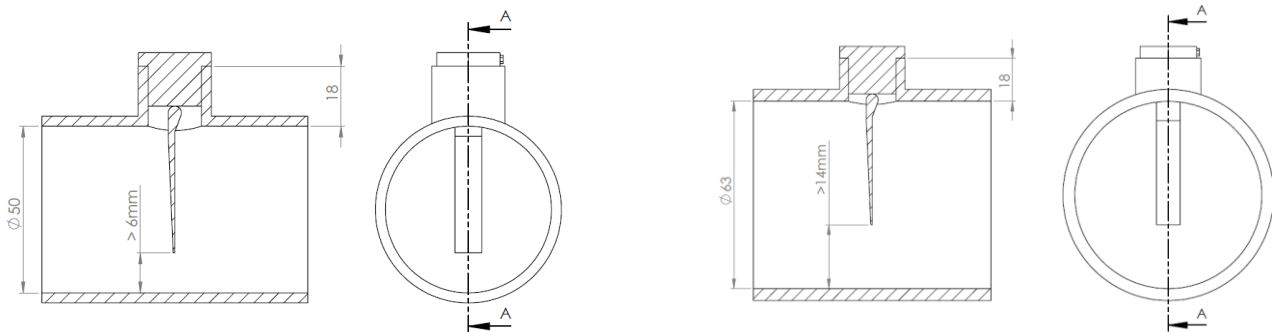

Figure 28 - Flow Switch Paddle Length Adjustment
- There must be a 5 mm (0.2") minimum gap between end of the paddle and opposite pipe wall (see Figure 28 - Flow Switch Paddle Length Adjustment).